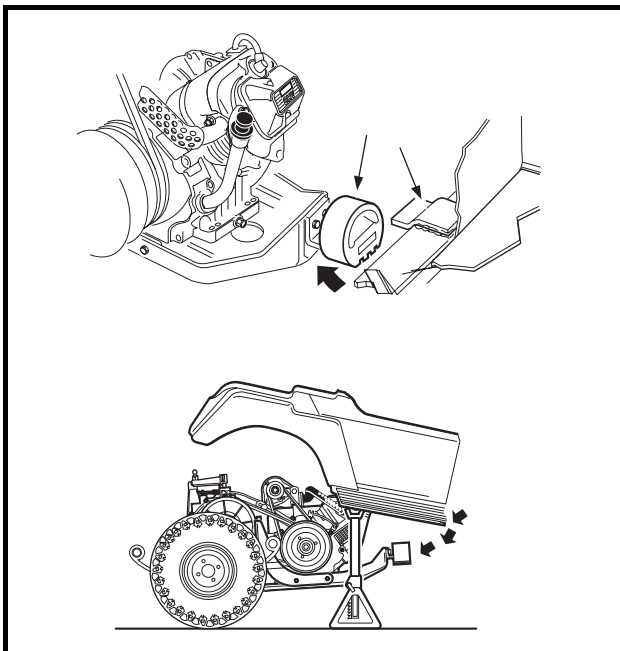

Figure 19-26 Snubber and Bracket
13. Carefully lift the snubber out of the snubber bracket in the vehicle frame and lower it to the floor (**Figure 19-26, Page 19-11**). The powertrain should be completely disconnected from the vehicle and resting on the floor.